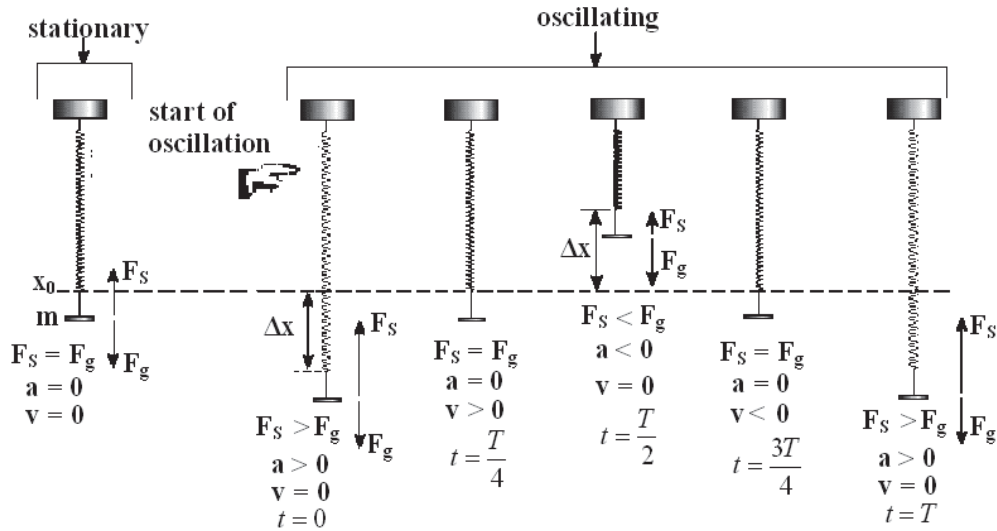

Figure 9.2: Oscillation of a spring.
The position where the mass is at rest is called the equilibrium position ($x = x_0$). As we now know, the downward force due to gravity $F_g = mg$ and the force due to the spring pulling upward $F_S = -k\Delta x$ cancel each other. This is shown in the first part of Figure 9.2. However, if the string is stretched *beyond its equilibrium point* by pulling it down and then releasing it, the mass will accelerate upward ($a > 0$), because the force due to the spring is *larger* than gravity pulling down. The mass will then pass through the equilibrium point and continue to move upward. Once above the equilibrium position, the motion will slow because the net force acting on the mass is now downward (i.e. the downward force due to gravity is constant while the upwardly directed spring force is getting smaller). The mass and spring will stop and then its downward acceleration will cause it to move back down again. The result of this is that the mass will oscillate around the equilibrium position. These steps and the forces (F), accelerations (a), and velocities (v) are illustrated in Figure 9.2 for the first complete cycle of an oscillation. The oscillation will proceed with a characteristic period, τ , which is determined by the spring constant and the total attached mass. This period is the time it takes for the spring to complete one oscillation, or the time necessary to return to the point where the cycle starts repeating (the points where x , v , and a are the same). One complete cycle is shown in Figure 9.2 and the time of each position is indicated in terms of the period τ , where